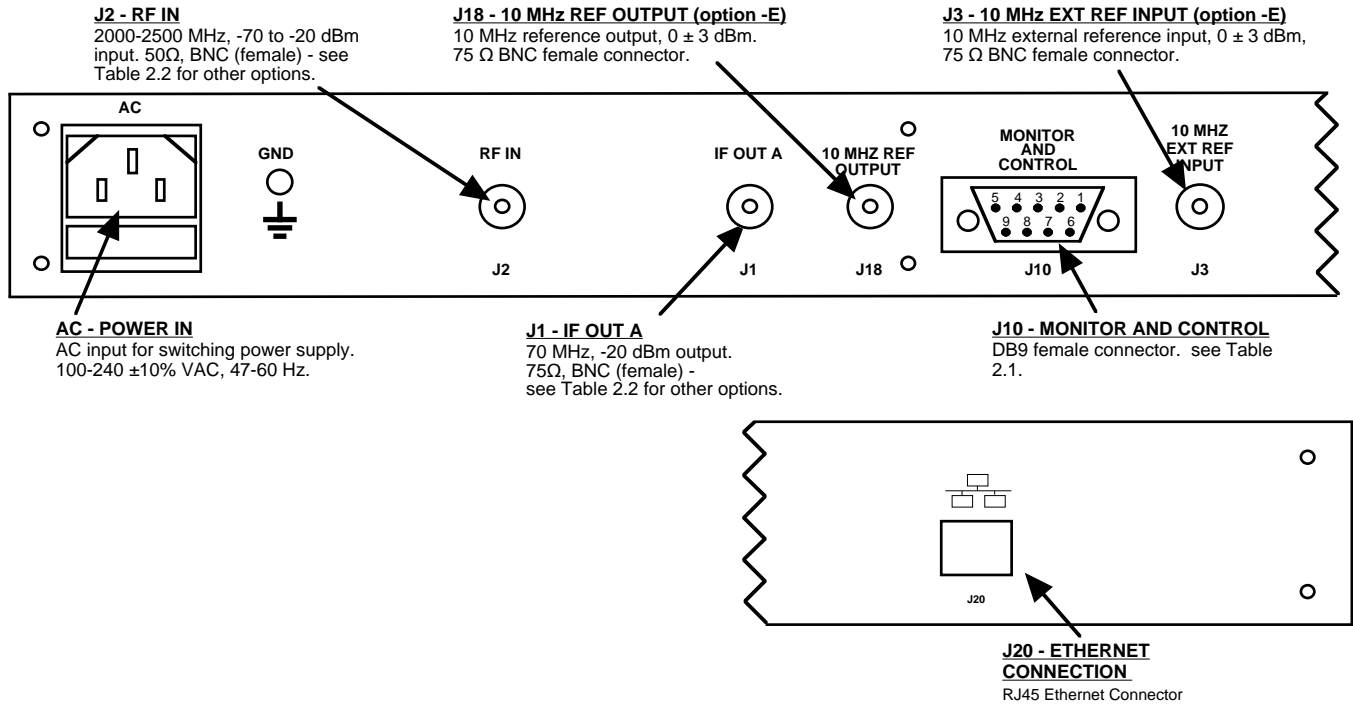

FIGURE 2.2 2016-04 Rear Panel I/Os
Figure 2.2 shows the input and output connectors on the rear panel.
1. Connect a -20 dBm to -70 dBm signal to RF IN, J2 (Figure 2.2)